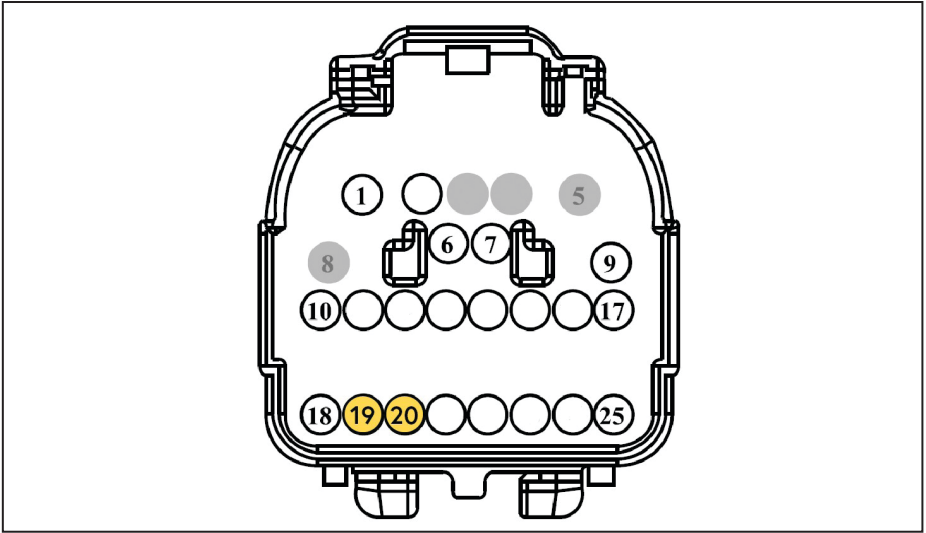

Figure 40 — C264 connector (male)
- Disconnect the C264 connector and locate the green wire with blue stripe at pin 19 (CAN H), and the white wire with green stripe at pin 20 (CAN L) (Figure 40).